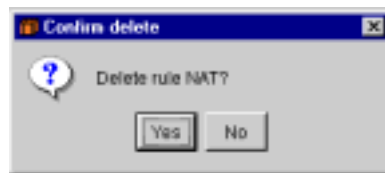

Figure 5.124 Confirm delete Window
- Click the  (Delete) button at the bottom of the window. The Confirm delete window opens displaying the name of the rule to be deleted (Figure 5.124).